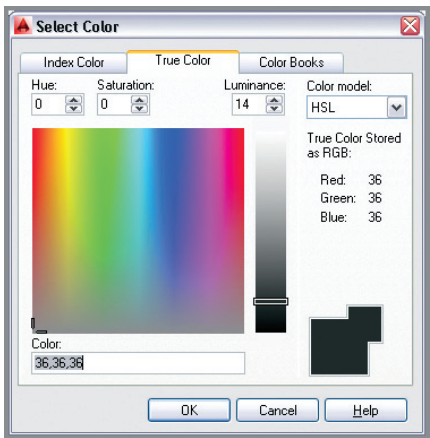

FIGURE 15.31 Selecting a very dark table cell background color
- 11. Click the words Room Schedule to select merged cell ABC1. Open the Table Cell Background Color menu in the Cell Styles panel, and choose Select Colors. Select the True Color tab in the Select Color dialog box that appears. Type **36,36,36** in the Color text box and press Tab (see Figure 15.31). Click OK.